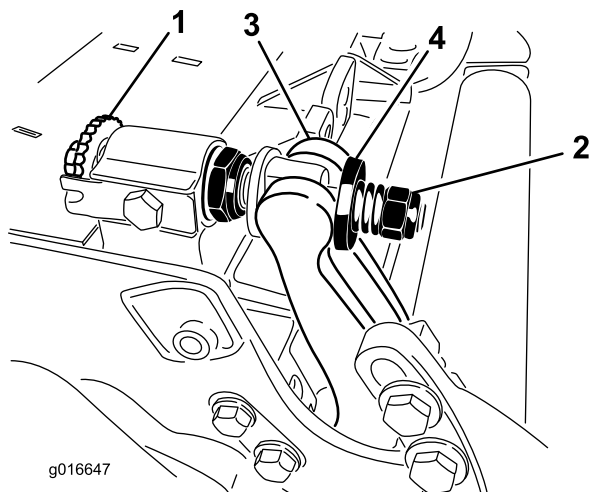

Figure 33
1. Turn bedbar adjuster screws, counterclockwise, to back bedknife away from reel (Figure 33).
2. Back out the spring tension nut, until the washer is no longer tensioned against the bedbar (Figure 33).
2. Apply Never Seize to the inside of the bushing area on cutting unit center frame (Figure 33).